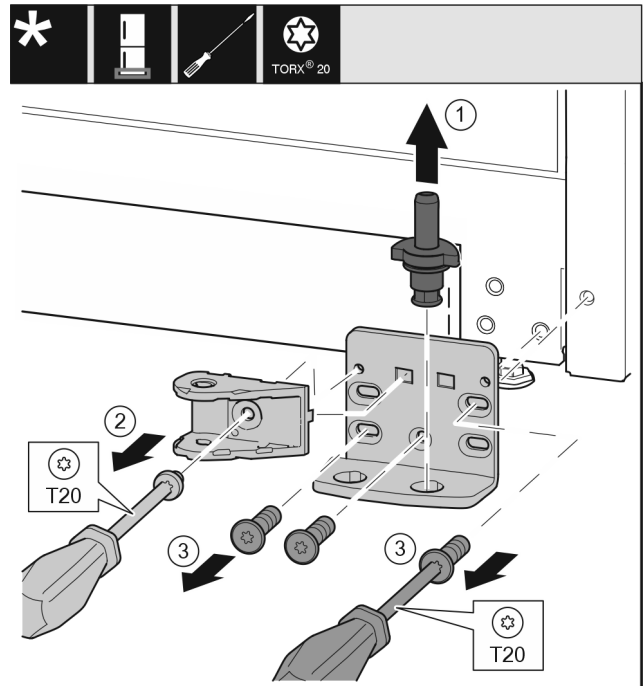

Fig. 36 *
- Pull the bearing bolt Fig. 36 (1) out upwards completely.*
- Use screwdriver to unscrew the screw Fig. 36 (2) and remove the closing damper connection.*
- Use screwdriver to unscrew the screws Fig. 36 (3) and remove the swap bearing block.*